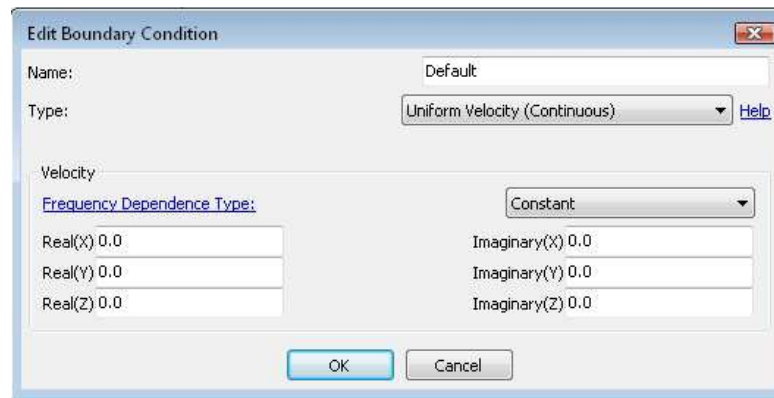

Figure 9.40: Edit boundary conditions window.
- Right-click on **Default** and select: **Edit...** to make changes to the default boundary conditions applied to all the boundary elements. The window in Figure 9.40 will appear.